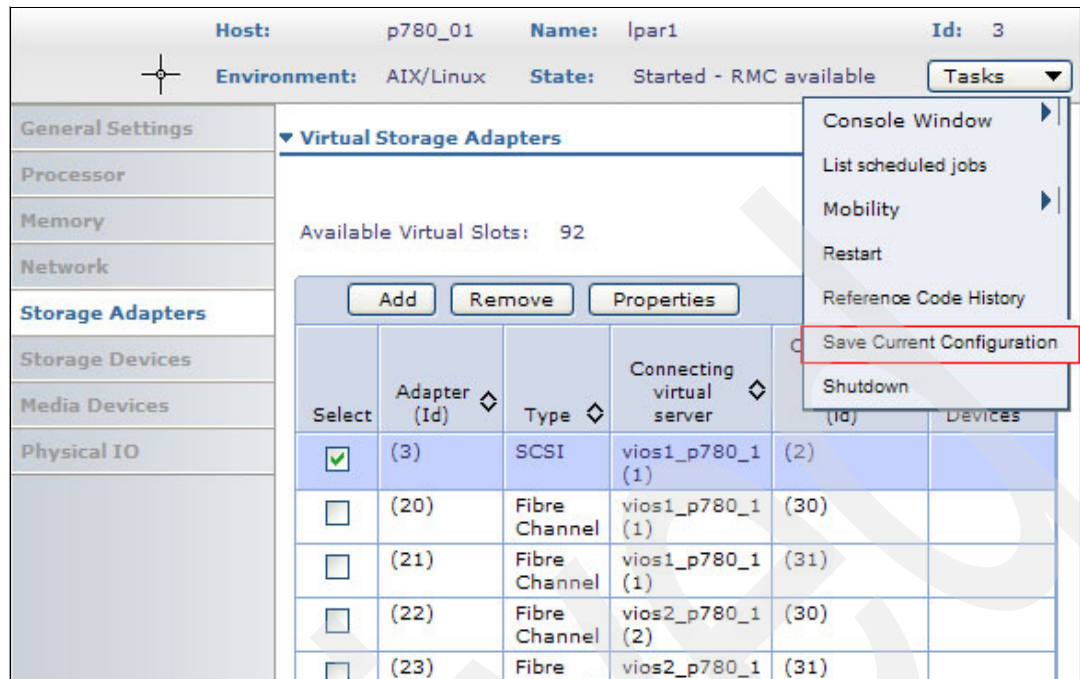

Figure 2-39 Permanently saving a dynamic LPAR operation
6. If the adapter must be added permanently, you can add it into the profile. One way is to save the current configurations from the system Virtual Server Management tab. Select **Tasks** → **Save current configurations**, as shown in Figure 2-39 on page 62.